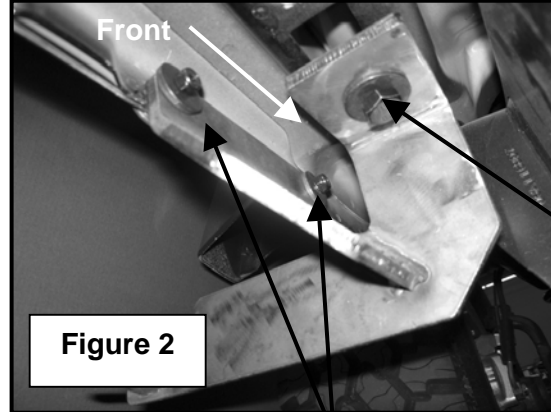

Figure 2
- Locate two factory holes on the front driver side pinch weld. Attach the Front Driver Side Mounting Bracket to the pinch weld using the included (2) 6-1.00mm x 25mm Allen Bolts, (2) 6mm Nylock Nuts, (2) 6.5mm ID x 18mm OD x 1.6mm Flat Washers (for the out side) and use (2) 6.3mm ID x 23mm OD x 3.2mm Flat Washers (for the inside against the bracket) **(Figure 2)**. Do not tighten at this time.
- Attach the Front Driver Side Mounting Bracket to the side panel using the included (1) 10-1.50mm x 35mm Hex Head Bolt, (1) 10mm Lock Washer, and (1) 10mm Fender Washer, **(Figure 2)**. Do not tighten at this time.